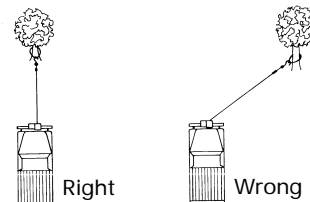

Figure 6
13. AVOID CONTINUOUS PULLS FROM EXTREME ANGLES as this will cause the wire rope to pile up at one end of the drum (Figure 6). This can jam the wire rope in the winch, causing damage to the wire rope or winch itself.